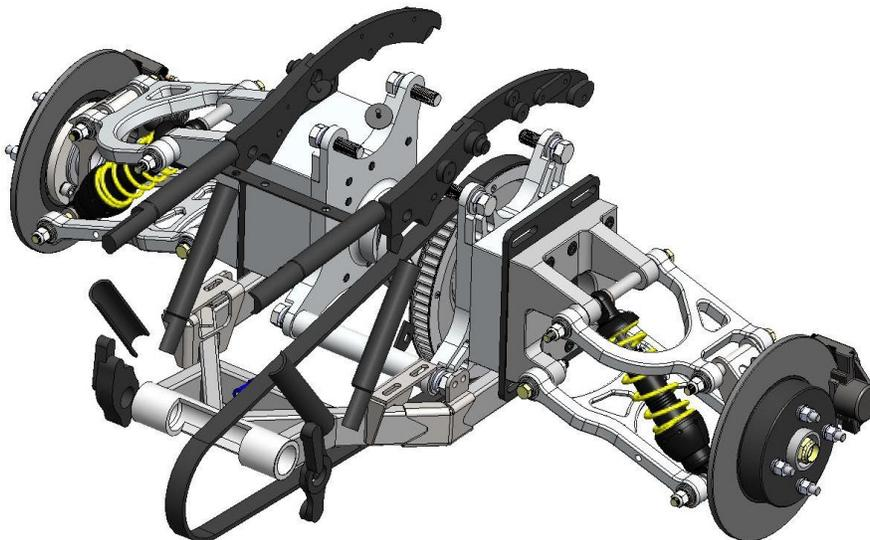

Figure 7
- b. Passing the left end through the drive belt, position the unit behind vehicle. Use suitable support to help stabilize the unit. See Figure 7